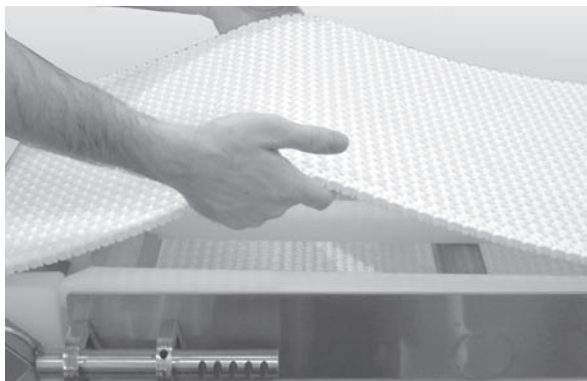

Figure 41
3. If conveyor does not have belt lifters, lift up on belt manually (**Figure 41**).